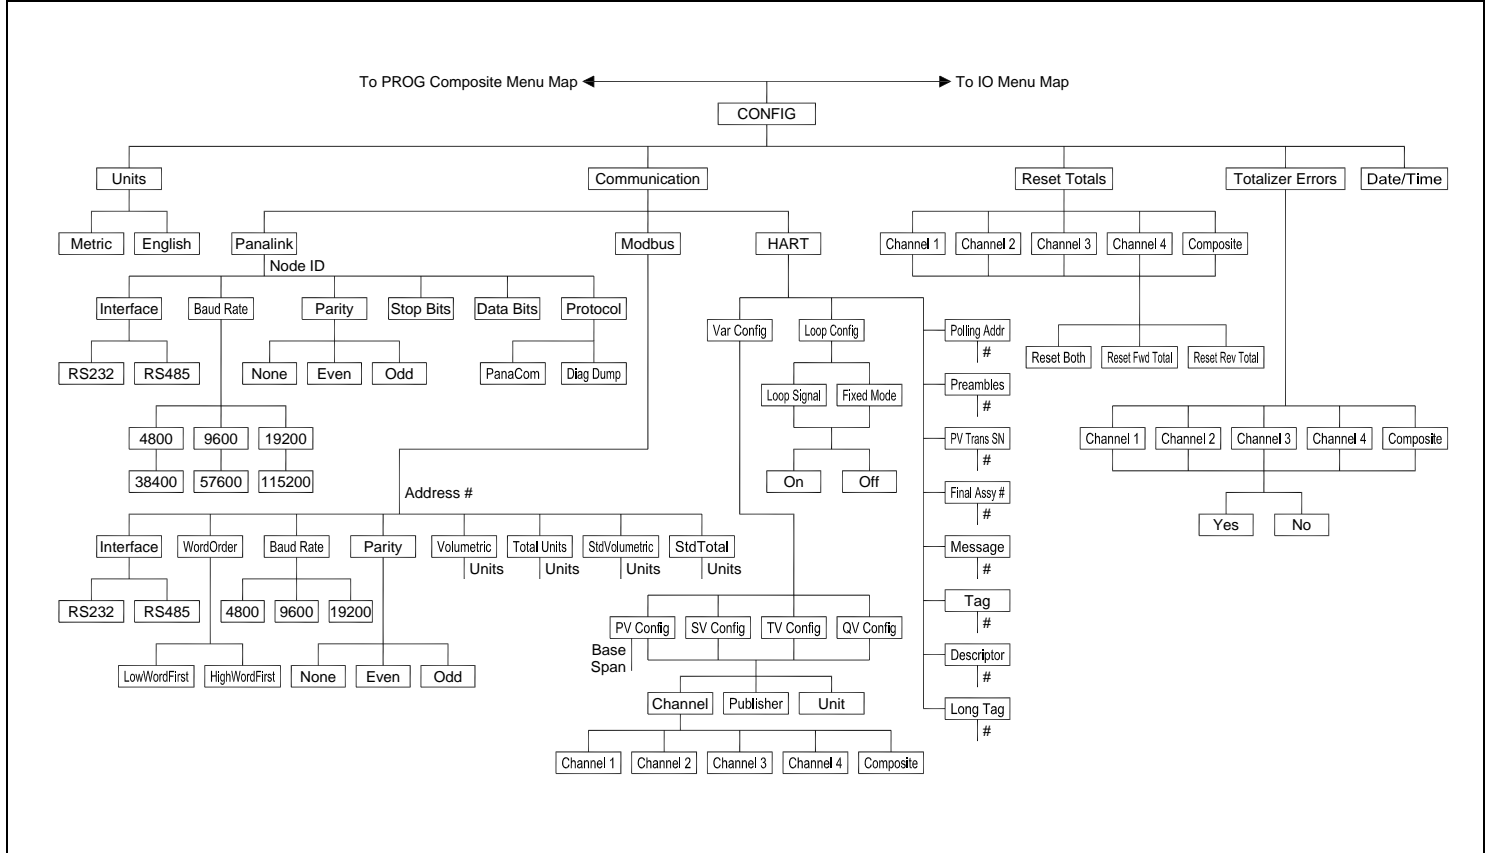

Figure 233: CONFIG Menu Map
- **Figure 233: CONFIG Menu Map**